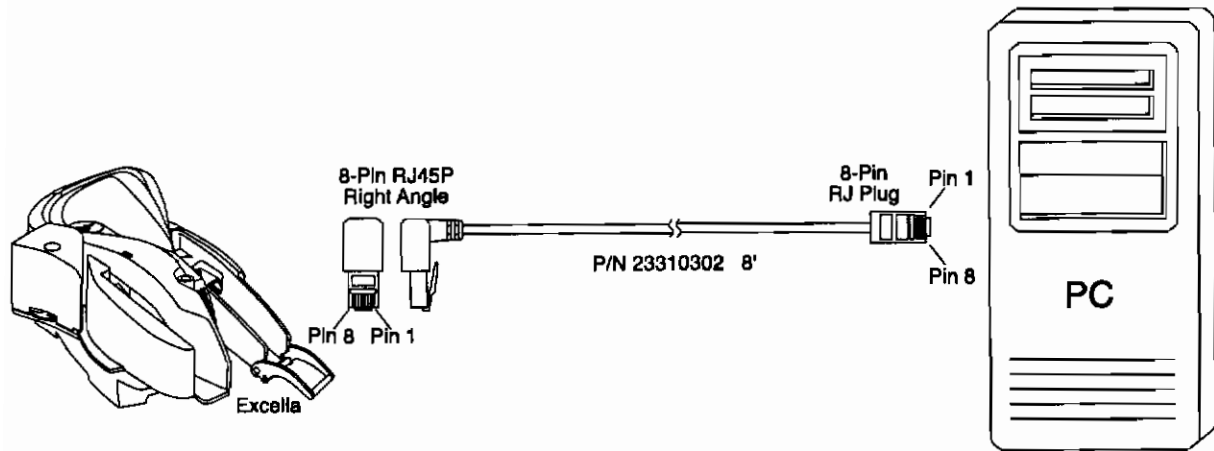

Figure 2-7. Cabling, Ethernet, 8-pin RJ45P, Right Angle, P/N 23310302 or 22310304
- Ethernet – RJ 45P, 8-pin, right angle, P/N 22310302 shown in Figure 2-7 with pin list in Table 2-2
- Ethernet Cross-Over – RJ 45P, 8-pin, right angle, P/N 22310304 shown in Figure 2-7 with pin list in Table 2-3